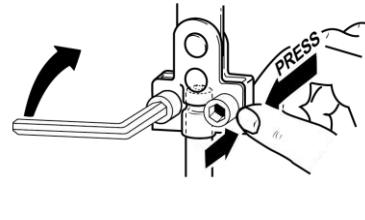

Figure 4. Connecting the Linkage Stem Coupling on the Valve Stem.
5. Use the 5 mm hex key to tighten the stem coupling screws to 35 lb-in. (4 Nm), and to secure the connection to the valve stem. See Figure 4.